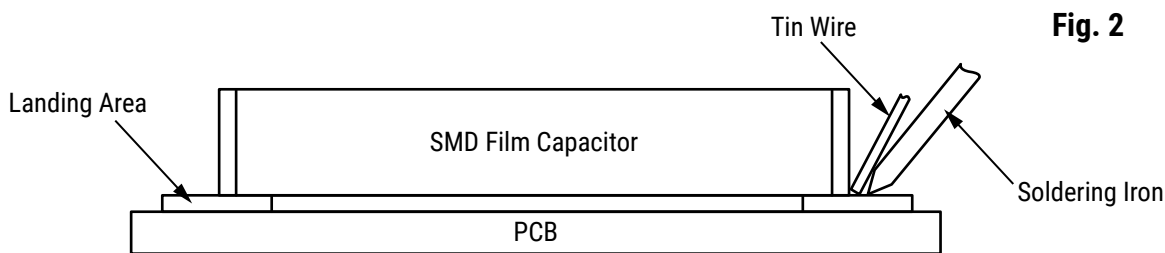

Fig. 2
- Never touch the capacitor body with the soldering iron but rather touch the soldering iron and the end termination with the tin wire edge (see Figure 2)
- If the soldering iron is equipped with a temperature controlling device, set the temperature to $250 \pm 3^{\circ}\text{C}$ and proceed as per Figure 2 (the maximum soldering time, on both terminations, is 5 seconds)
- 1) Proceed as per Figure 2